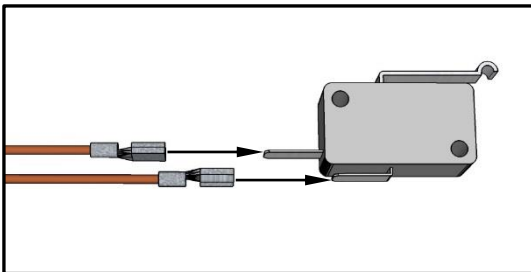

Figure 19
- 2 Connect “red” and “black” wires to door safety switch using the provided spade quick connectors. It does not matter which terminal the “red” and “black” wires are connected to. **(see Figure 19)**